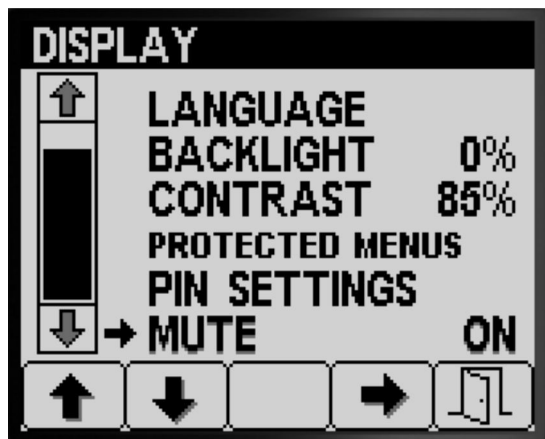

Figure 30
- Press buttons 1 or 2 to navigate to the MUTE option (Figure 30).